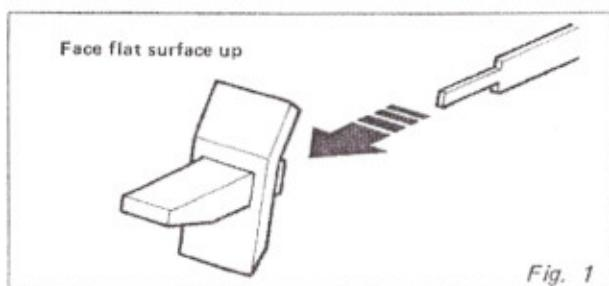

Fig. 1
- Pull off lever. (refer Figure 1)